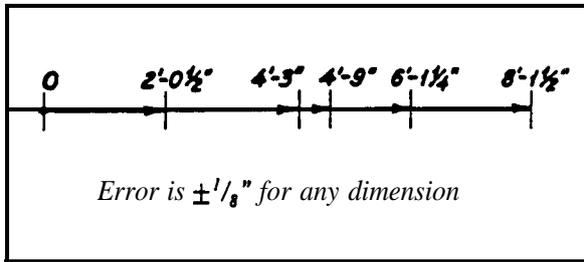

Fig. 4.14
• **Running measurements.** Running dimensions reduce these problems by using the same starting point for all measurements made in a common direction (see Fig. 4.14), so they help your work meet Standard II. For example, to measure the window openings in a building facade, you would hook the tape at one corner, and continue (or "run") down the